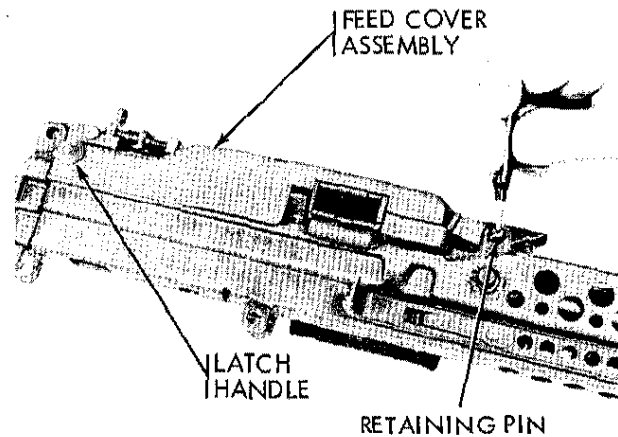
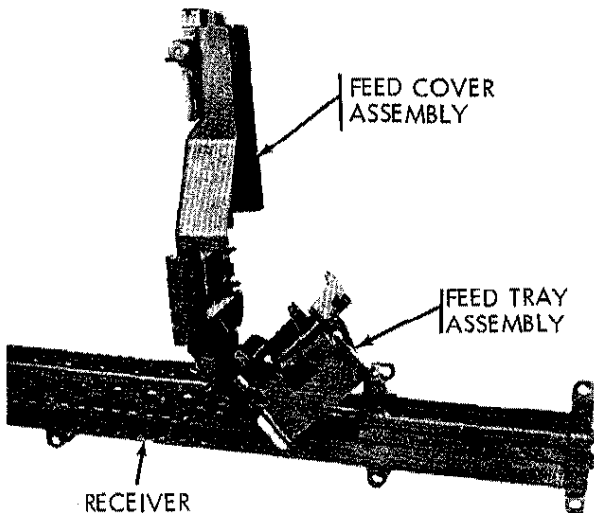

FIGURE 11. REMOVING FEED COVER ASSEMBLY PIN
FIGURE 12. REMOVING FEED COVER AND FEED TRAY
(1) Remove the feed cover assembly retaining pin (fig. 11) and push forward on the cover latch handle (fig. 2). Raise the cover and remove the feed cover and feed tray assemblies (fig. 12).